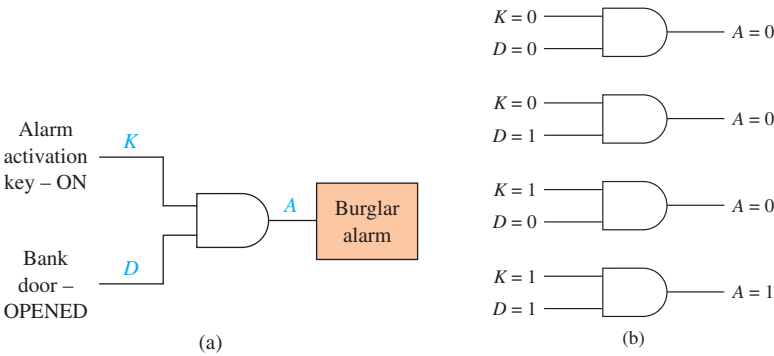

Figure 3-2 AND gate: (a) Used to activate a burglar alarm; (b) all combinations of key ON (K) and door OPEN (D).
One example of how an AND gate might be used is in a bank burglar alarm system. The output of the AND gate will go HIGH to turn on the alarm if the alarm activation key is in the ON position *AND* the front door is opened. This setup is illustrated in Figure 3-2(a). Figure 3-2(b) shows the result for every combination of Key (K) and Door (D).